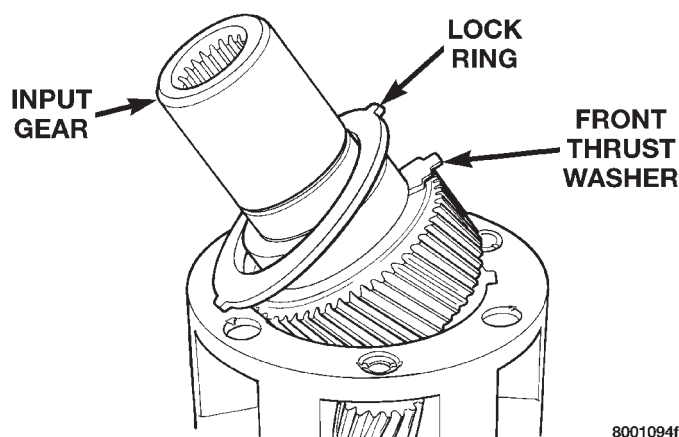

Fig. 34 Input Gear, Carrier Lock Ring, And Rear thrust Washer Removal
(7) Remove input gear, lock ring, and front thrust washer from planetary carrier (Fig. 34).